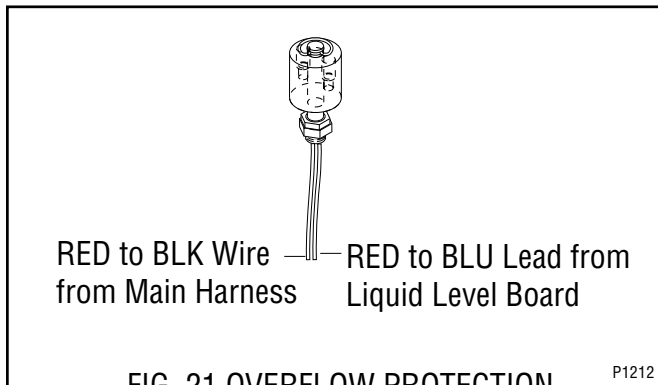

FIG. 21 OVERFLOW PROTECTION SWITCH LEADS
6. Refer to Fig. 21 when reconnecting wires.